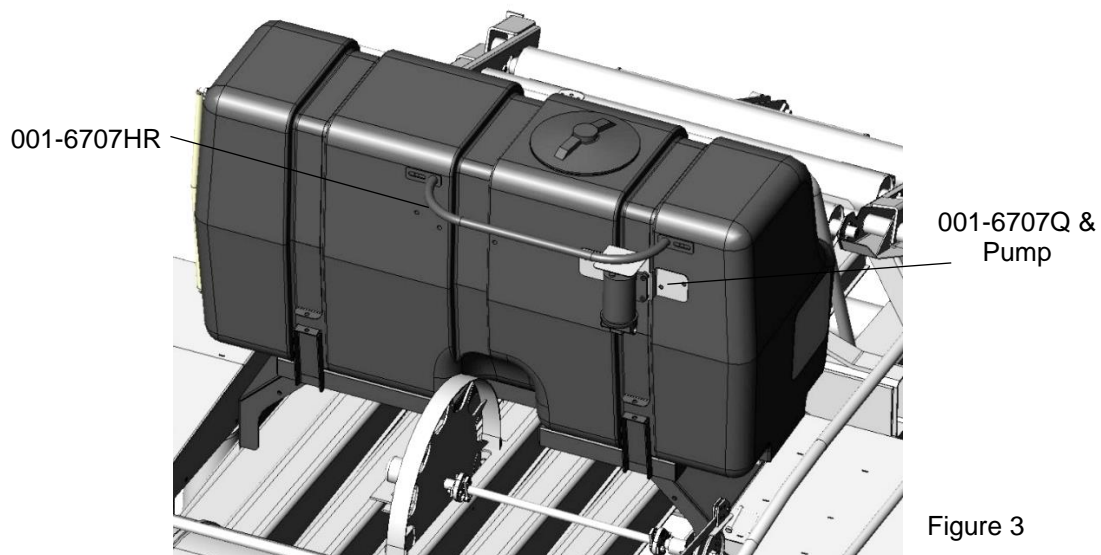

Figure 3
2. Install the handrail (001-6707HR) above the pump manifold using two 3/8" x 3/4" flange bolts. Figure 3
4. Locate the 1/2" hose and connect the filter bowl assembly to the tank fitting using the supplied two hose clamps. Connect the 3/4" hose to the pump using the supplied straight fitting (003-A3434). Figure 3